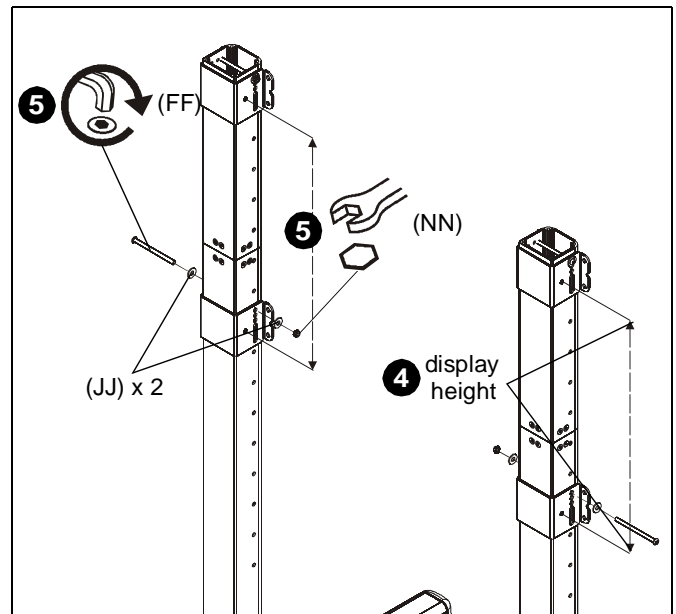

Figure 4
4. Measure one screen height down from center point on installed clamp brackets to determine mounting location of lower clamp brackets. (See Figure 4)
5. Use 5/16-18 x 4 1/2" button head cap screw (FF), two 5/16" washers (JJ) and 5/16-18" lock nut (NN) to install clamp brackets for lower displays with center diamond one screen height below center diamond of upper installed brackets. (See Figure 4)